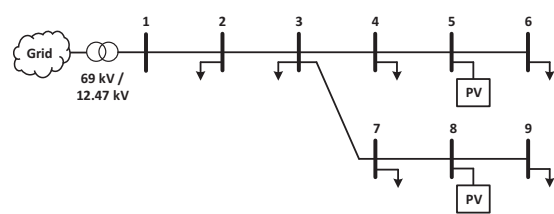

Figure 1.22 The balanced three-phase active distribution feeder in Exercise 1.18.
- 1.18** Consider the balanced three-phase power distribution system in Figure 1.22. The per-phase impedance of each distribution line is $0.0412 + j0.0625 \, \Omega$. The voltage phasors at all buses are shown in Table 1.2.